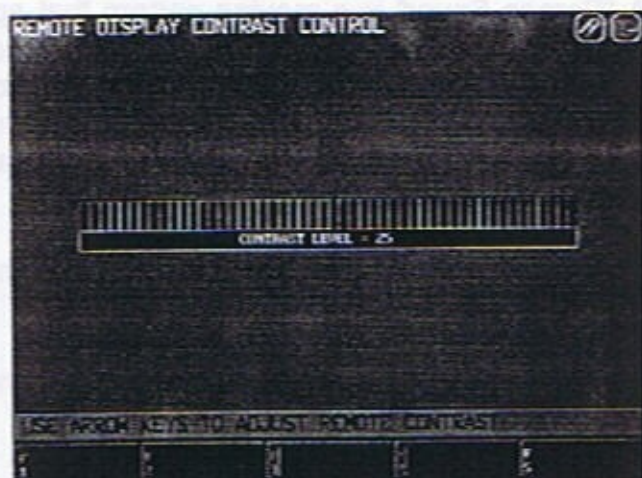

Figure 5-20
- [F1] – to adjust the hand-held remote display contrast and brightness (see Figure 5-20). The default is set to 25. Use the Arrow Keys to set the contrast level from 1 to 50. Press [F10] to return to the previous menu screen. The contrast level is stored until the remote contrast is adjusted again.